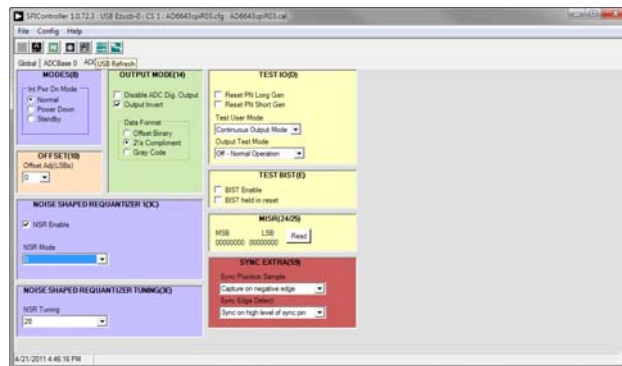

Figure 14. SPI Controller, Example ADC A Tab—NSR Settings for the AD6643
7. If using the Noise Shaping Requantizer (NSR) feature of the AD6643, the settings in the ADC A and/or ADC B pages must be changed (see Figure 14). The **NSR Enable** checkbox must be selected under the **NOISE SHAPED REQUANTIZER 1(3C)** section. This enables the circuitry in the AD6643. To select the bandwidth mode, select 0 for 22% and 1 for 33% under the **NSR Mode** drop-down menu in the **NOISE SHAPED REQUANTIZER 1(3C)** section. Upon selecting the bandwidth mode, select the desired tuning word in the **NSR Tuning** drop-down menu under